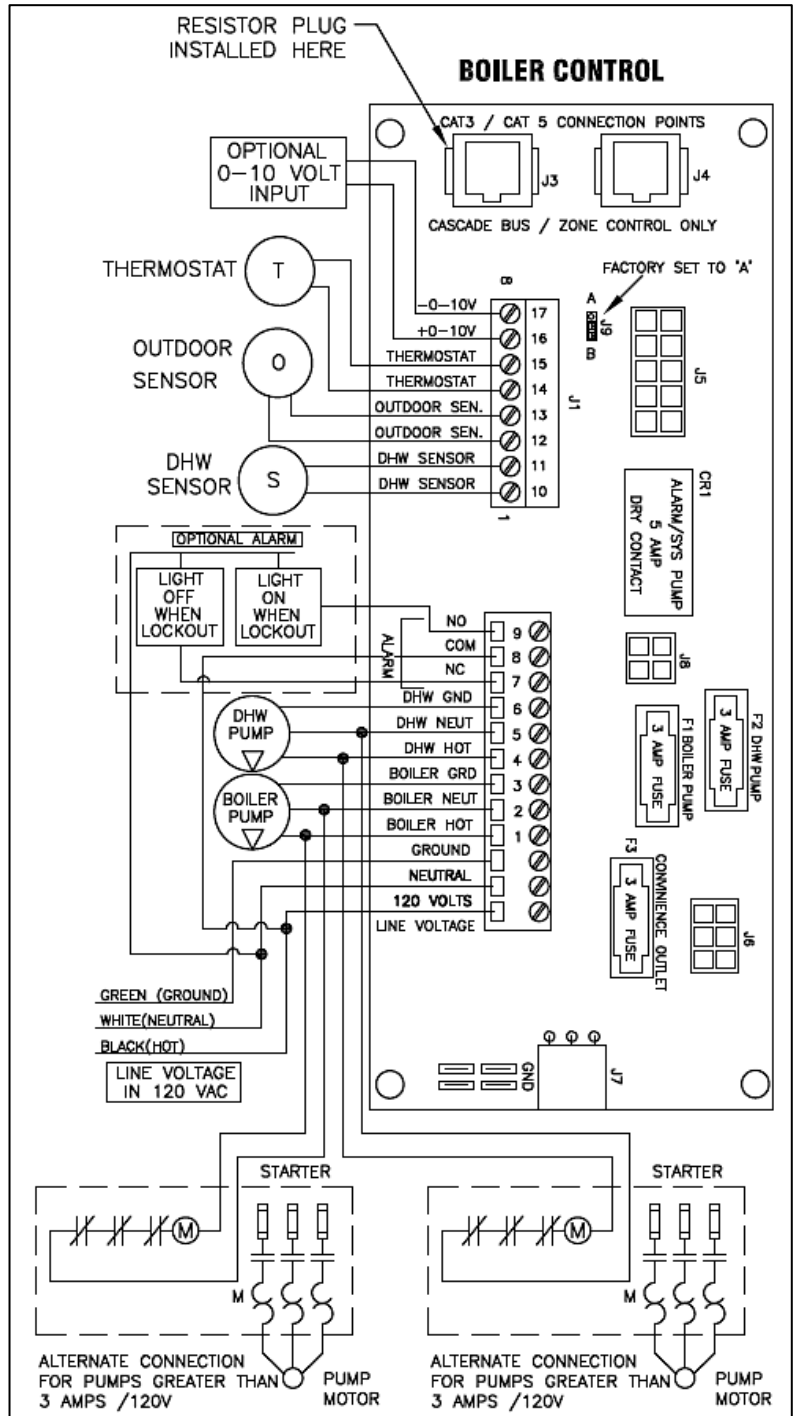

Figure 25 – LP-293-NN Elite Boiler Control
NOTE: A termination plug is included in the CAT 3 / CAT 5 Bus Connection Point, labeled J3 in Figure 25. DO NOT REMOVE THIS PLUG! Doing so will affect boiler operation and void warranty.
1. Connect 120V / 60Hz / 15 AMP incoming power wiring to the line voltage terminal strip in the electrical junction box at terminals 120V, Neutral, Ground (shown in Figure 25).
3. Connect the boiler pump as shown in Figure 25 to the terminals marked 1 – (HOT), 2 – (NEUT), and 3 – (GND). The connections shown are suitable for a maximum continuous pump draw of 3 amps at 120 volts. If the pump requires more current or voltage than the 120 volts supplied, an external motor starter or contactor will be required.
The control includes a dry contact alarm output. This is an SPDT circuit, rated at 5 amps at 120 volts. This contact can be used to activate an alarm light or bell or notify a building management system if the boiler goes into a lockout condition. The circuit between the ALARM COM and NC terminals is closed during normal operation and the circuit between ALARM COM and NO is open during normal operation. The connections depicted in Figure 25 show two 120 volt lights connected to the alarm terminals. One light will be on when the boiler is in normal mode and the other light will be on when the boiler is in lockout mode.
1. Connect the room thermostat to the terminals marked THERMOSTAT in the electrical junction box (see Figure 25). Alternately, any dry contact closure across these terminals will cause the boiler to run. Take caution to ensure neither of the terminals becomes connected to ground.
2. Connect the indirect sensor (7250P-325) to the terminals marked DHW SENSOR (shown in Figure 25) in the electrical junction box.
2. Connect a building management system or other auxiliary control signal to the terminals marked 16, 0-10 VOLT + and 17, 0-10 VOLT – in the electrical junction box (shown in Figure 25). Caution should be used to ensure that the 0-10 VOLT + connection does not become connected to ground.
3. Move jumper on connection board (shown in Figure 25) from A to B.